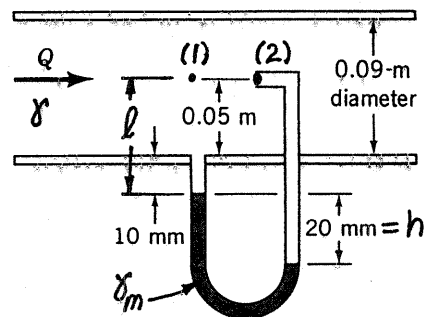

FIGURE P3.67
3.67 The specific gravity of the manometer fluid shown in Fig. P3.67 is 1.07. Determine the volume flowrate, Q , if the flow is inviscid and incompressible and the flowing fluid is (a) water, (b) gasoline, or (c) air at standard conditions.